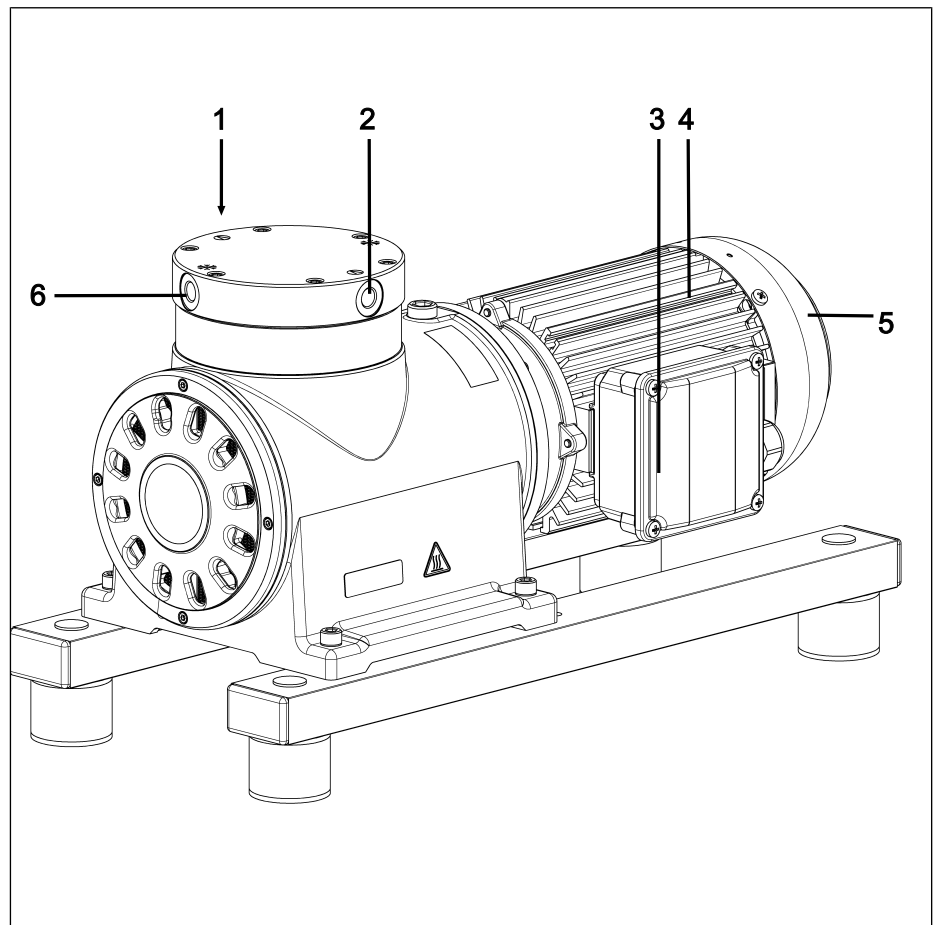

Fig.1 Design N630
2. Fasten the carrying strap between compressor housing and motor (Fig. 1, see Fig. 7).